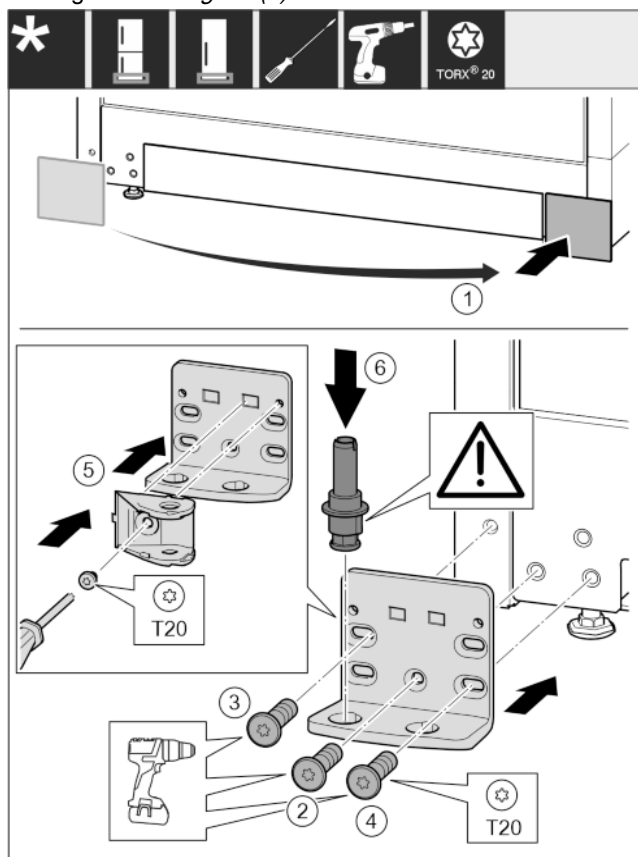

Fig. 28
- Remove the cover and fix it on the other side. *Fig. 28 (1)*
- Place the bearing bracket on the other side and screw it on with a T20 screwdriver. Start with screw 2 at the bottom in the middle. *Fig. 28 (2)*
- Screw in screws 3 and 4 tightly. *Fig. 28 (3,4)*
- Rotate the soft stop connection 180°. Screw it in with a T20 screwdriver on the other side of the bearing bracket. *Fig. 28 (5)*
- Insert the bearing pin completely. Make sure that the latching lug is pointing to the rear. *Fig. 28 (6)*